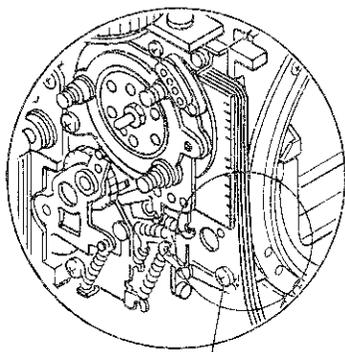

Fig. 45
Note: When mounting the front cover, take care so that a lead wire from W. connector ③ (Fig. 45) is not pinched in the bayonet ring.